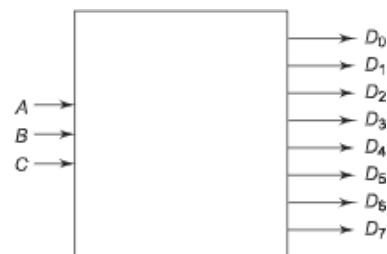

Fig. 10.14 3-to-8 decoder
- The objective of the decoder is to decode an n-bit binary number, producing a signal on one of  $2^n$  output lines. Figure 10.14 shown an 3-to-8 decoder